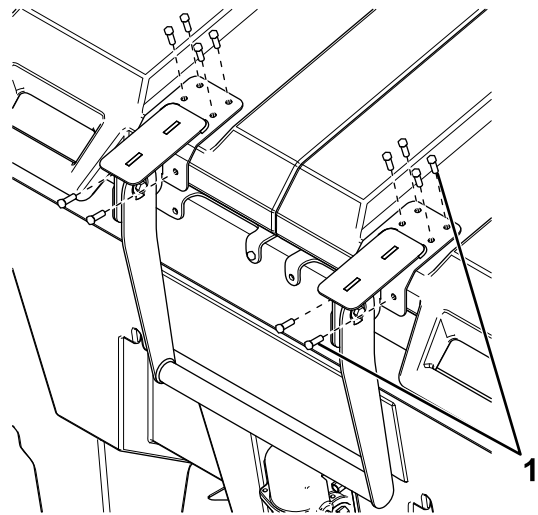

Figure 24
- Center the handle on the cover and secure it with 12 lag screws (Figure 24).